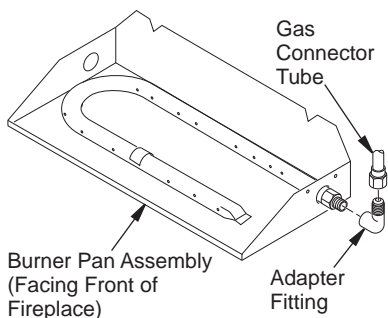

Figure 7 - Connecting Gas to Appliance
3. Install adapter fitting onto the burner inlet fitting using thread sealant on male threads of burner inlet fitting (see Figure 7). Adjust to most convenient position.